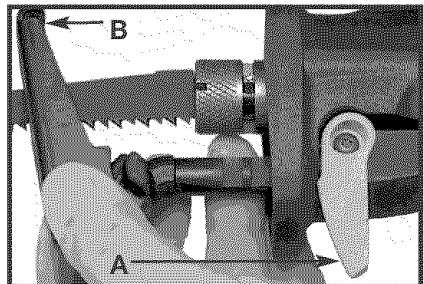

Fig. 11
To adjust, rotate lever (A) **Fig. 11**, releasing the pivoting guide shoe (B).